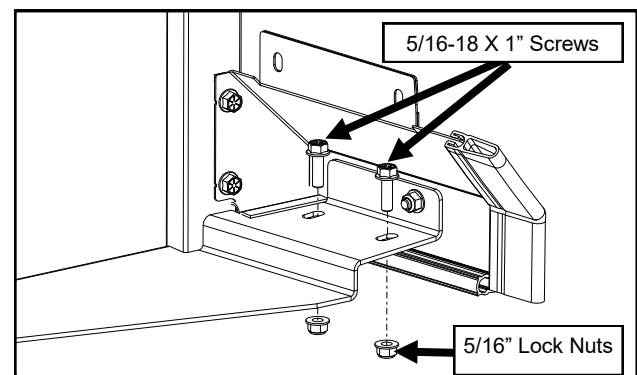

Fig. 7.4 (Front Side Frame Fasteners)
- 7.4 With an assistant, position the side frame assembly up onto the fender and rotate the front in. Install the front side frame fasteners finger tight at this time. See Figure 7.4.